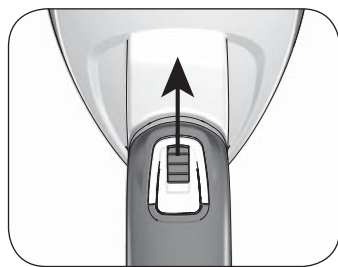
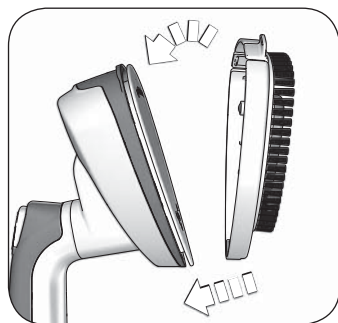
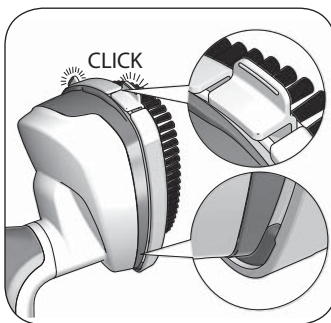
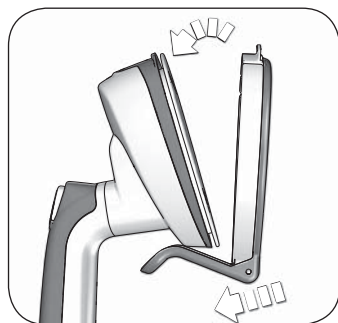

Fig. 13
Fig. 14
Fig. 15
Fig. 16
3. To emit a continuous and constant jet of steam, move the continuous steam lock slider upwards (Fig. 13).
1. Attach the brush. First insert the brush tip (Fig. 14). The correct insertion is done with a "click" (Fig. 15).
2. Place the garment on a folding rack. Pull the garment with your free hand. Place the appliance on the garment folds. Press the steam button (F) and then release it. Move the appliance from right to left. Move the appliance from the bottom upwards and brush. Press the steam button (F) several times.
2. Assemble the wrinkles accessory. The correct insertion is done with a “click” (Fig. 16).
3. Place the garment on a folding rack. Pull the garment with your free hand. Push the accessory lever. Insert the cloth in the slit. Press the steam button (F) and then release it. Move the appliance from the top to bottom until you removed the wrinkle. Press the steam button (F) several times.
4. To emit a continuous and constant jet of steam, move the continuous steam lock slider upwards (Fig.13).